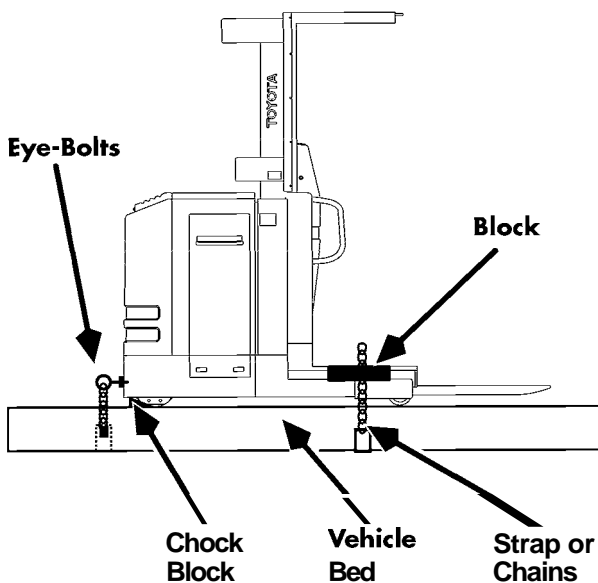

Figure 2-7. Tie-Down for Vertical Transport
- b. **Secure** chain from eye-bolts to vehicle bed. See Figure 2-7.
4. **Stop** truck **from bumper** or **guide roller** to floor of transport vehicle. See Figure 2-7
5. **Chock** drive wheel to **prevent tractor-first** movement. See Figure 2-7.
6. Place block **between baseleg and platform**, 7.5 in. (190.5 cm) from front edge of platform. See Figure 2-7.
7. Position additional adjustable chain or strap perpendicular to forks over operator's platform and attach it to vehicle bed. This will prevent tip-over during transportation. See Figure 2-7.